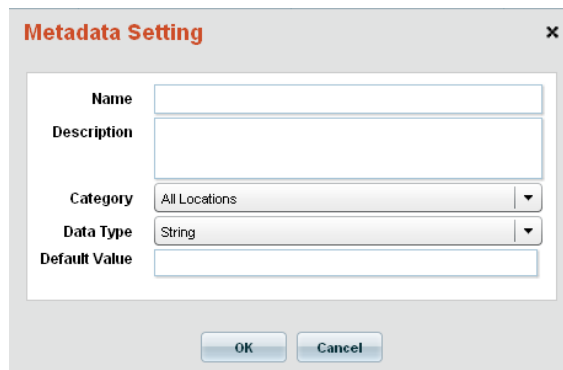

FIG. 373 Metadata Setting dialog
In the *Metadata Setting* dialog (see FIG. 373 on page 229), click the **Category** field to open a drop-down menu of application Categories that can be applied to a metadata definition. The Category selection defines the scope of the metadata definition, as described in the following table:
In the *Metadata Setting* dialog (see FIG. 373 on page 229), click the **Data Type** field to open a drop-down menu of Data Types that can be applied to a metadata definition. The supported metadata Data Types are defined in the following table:
2. Click the **Add** button. This action invokes the *Metadata Setting* dialog (FIG. 373):
3. Click the **Edit** button. This action invokes the *Metadata Setting* dialog (FIG. 373 on page 229).
2. Click the **Add** button. This action invokes the *Metadata Setting* dialog (FIG. 373 on page 229).